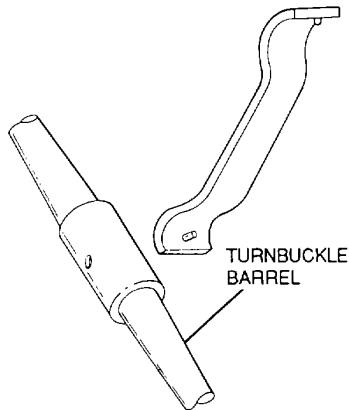

Figure 7-8. Turnbuckle Wrench
(1) Cable tensiometers are precision measuring instruments. Exercise extreme care when handling them, because some types of damage may render them useless.
(2) Store tensiometers in separate boxes to prevent damage.
**7-4. Tumbuckle. Wrench.** The tumbuckle wrench shown in figure 7-8 is used for ease in adjusting tumbuckle. It is a short bar curved on each end to fit the body of a turnbuckle. Each curved surface has a short steel peg which fits into the hole in the center of the tumbuckle.